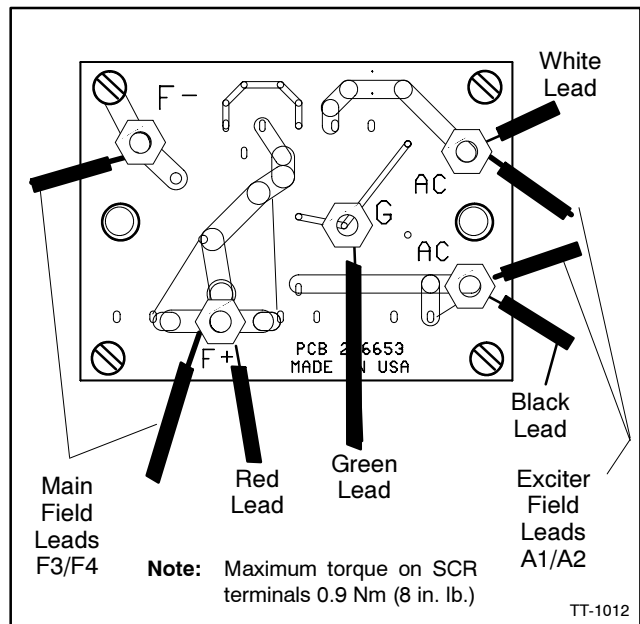

Figure 9 SCR Assembly Wiring
16. Make electrical connections to SCR assembly. When there is a choice between which lead to connect, choose the lead which does not stress the lead or terminal. See Figure 9 for wiring schematic.
Note: Place one elastic stop nut (X-101-24) on each stud. Torque all nuts to 0.9 Nm (8 in. lb.) maximum. Lead terminals must not contact any circuit board solder connections or any other studs or terminals when SCR assembly stud nuts are tightened. See Figure 9 for recommended lead positions. Use cable ties (X-468-3) as necessary to secure leads.